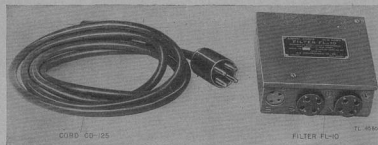
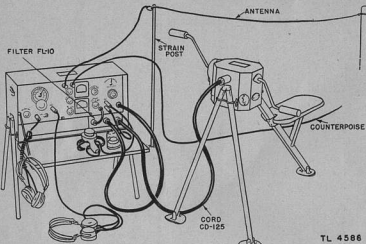

FIGURE 4.—Filter FL-10 and cord CD-25.
FIGURE 7.—Radio set SCR-288 (receiver operated by generator).
(6) If the desired signals are voice signals, they will be heard in somewhat distorted form, mixed with a varying tone. Push PHONE-C.W. switch to PHONE, and turn tuning knob 107 back and forth very slightly for maximum signal strength and clarity. Adjust the VOLUME control knob as desired.
(7) If the desired signals are modulated c-w signals, leave PHONE-C.W. switch in the C.W. position until they are heard. Then push the switch to the PHONE position and turn tuning dial slightly for best results. Adjust VOLUME control knob as desired.
(8) An extra pair of headphones may be plugged into the jack marked EXTRA PHONES. When only one pair of phones is used, it must be plugged into the right-hand jack (marked PHONES) as the filament circuit is open when there is no plug in this jack.
(9) To turn off the receiver, rotate VOLUME control knob to the extreme counterclockwise position. To avoid disturbing the sensitivity or audio output setting by turning the receiver off in the manner just described, it may be desirable to turn off the filaments by removing the plug from the PHONES jack. Monitoring of phone transmission will still be possible by plugging the phones into the EXTRA PHONES jack.
c. Receiver operation by means of generator GN-44-A and filter FL-10 (see fig. 7).—(1) When the receiver is to be operated from the power generated by the hand-driven generator a filter must be used. (See fig. 4.) The three sockets located on the filter case are connected to the receiver battery cable, to the transmitter power cable, and to the hand generator as indicated in (a), (b), and (c) below and in figure 7. Power from the hand generator is supplied to the filter unit by means of the extra cord CD-125. To install the filter, proceed as follows: